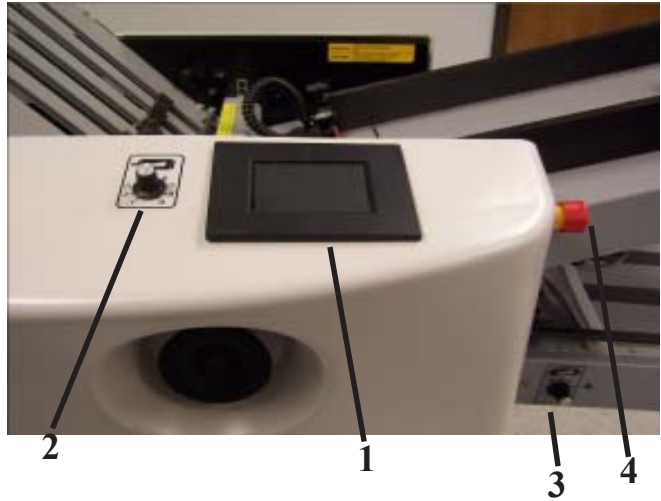

Figure 10
The main operator control panel is located at the top right of the front guard. See **Figure 10**. The "Control Panel"(1) is a full color touch sensitive screen. See Quick Start Instructions for detailed explanations (Page 14).